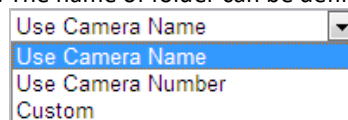

Figure 6-10 Child Directory
- ▶ **Child directory:** It is a sub-folder which can be created in the parent directory. The files will be saved in a sub-folder in FTP server. The name of folder can be defined as shown in Figure 6-10.